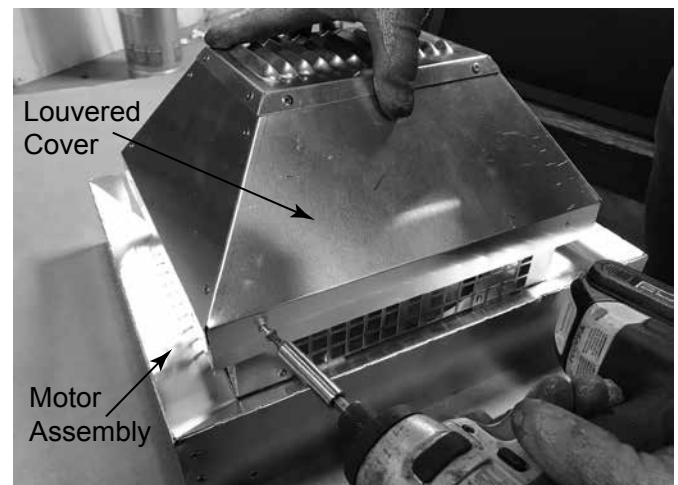

Figure 7.17
- Remove louvered cover from motor assembly, (8) screws. See Figure 7.17.